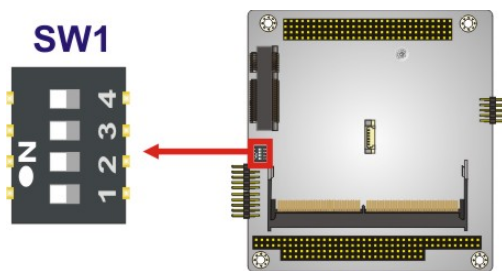

Figure 4-6: LVDS Panel Resolution Select Switch Location
- Jumper Location:** See Figure 4-6